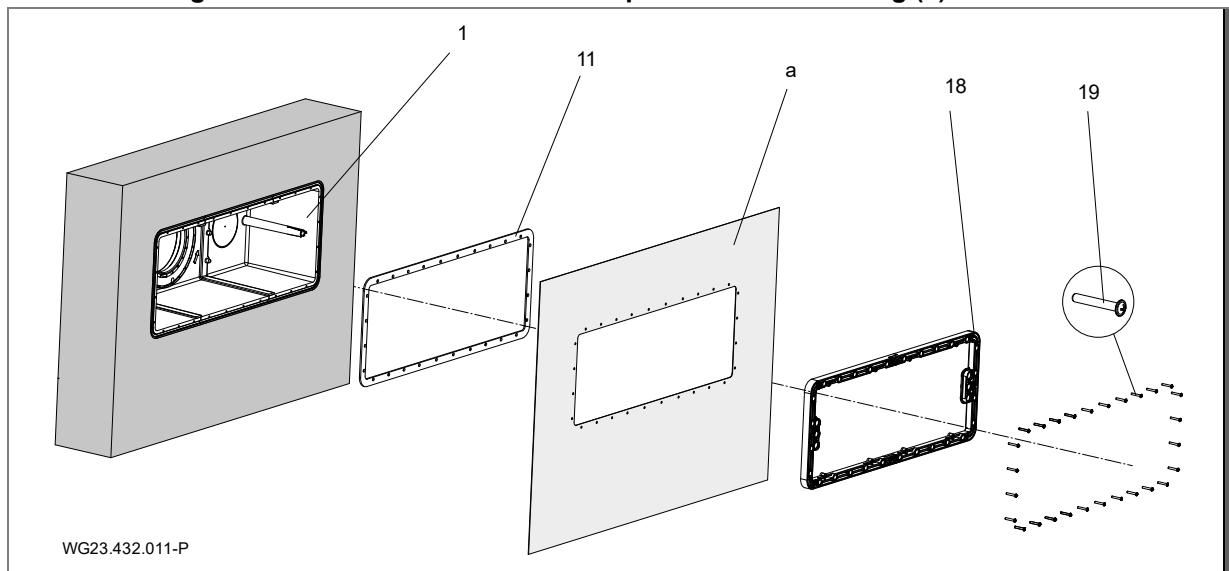

Fig. 7
It is recommended to lay a surrounding ring of epoxy resin/quartz sand at the pool-side outside wall of the housing (1) as a seal to the concrete wall. See "Fig. 7" on page 16